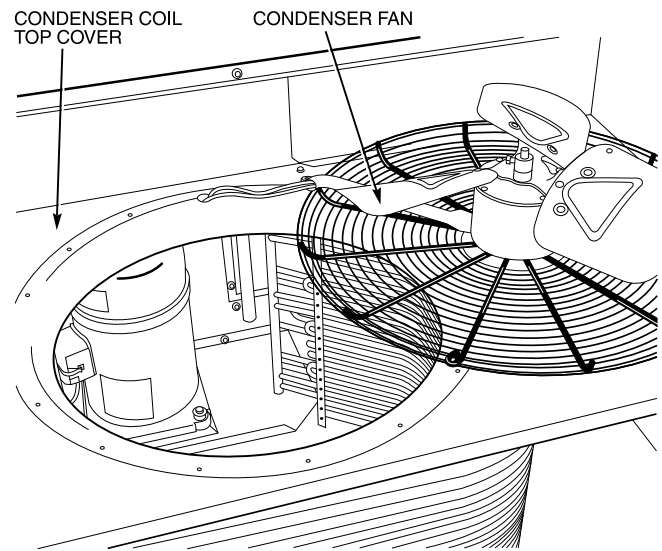

Fig. 36 — Coil Cleaning
One-Row Coil Cleaning (sizes 004-006) — To access one-row coils, remove screws securing condenser-fan grille to condenser fan top cover. Place grille on top of condenser fan top cover as shown in Fig. 36. It is not necessary to remove the top cover.
1. To access 2-row coils, remove screws securing condenser-fan grille to condenser coil top cover. Place grille on top of condenser fan top cover as shown in Fig. 36 and 37. It is not necessary to remove the top cover.